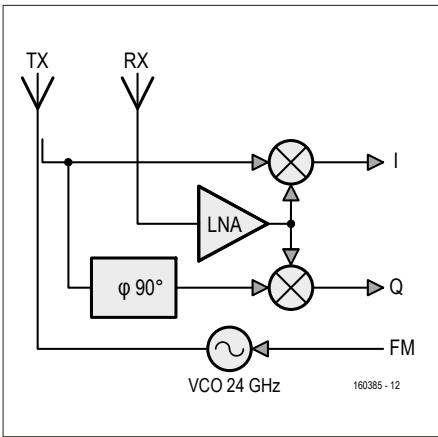

Figure 1. All this circuitry is housed inside the 25.4 × 25.4 × 6 mm (1" × 1" × 0.25") K-LC5 Doppler radar transceiver module.
The block diagram of the radar module I selected for my experiments is shown in **Figure 1**. The transmitted signal is generated by a voltage controlled oscillator (VCO) operating in the frequency range of 24.050 to 24.250 GHz. The tuning voltage input FM of the module can be used to modulate the VCO's frequency. In this application, however, a simple
Suppose that the transmitted (TX) signal frequency is 24.1 GHz and this signal inevitably also leaks to the receiver mixer for an LO signal (note the almost connected line in Figure 1). Imagine that the signal reflected by some object — our target — received by the receive antenna and fed to the mixer's RF port (RX), is at 24.100001 GHz, i.e. 1 kHz up from the TX frequency. Because the mixer produces at its IF output the sum and difference frequencies of LO and RF, there will be a sinusoidal signal with a frequency of 1 kHz (the difference) together with a signal with a frequency of 48.200001 GHz (the sum). Of course, there will also be some interference, noise and other harmonic components, but they are either suppressed or otherwise not significant. If we plug the value of 1 kHz into the equation presented above, together with $f_0 = 24.1$ GHz and $c = 3 \times 10^8$ m/s we find an object speed of 6.2 m/s or 22.4 km/h.
Note that if the RX signal was 1 kHz under LO, then there would be the same 1 kHz IF output signal. The frequencies 24.100001 GHz and 24.099999 GHz are so-called image frequencies because they produce the same signal at the IF output. The radar module depicted in **Figure 1** has two mixers with two outputs labelled 'I' and 'Q'. These are the so-called in-phase ('I') and quadrature ('Q') signal components. The 'I' and 'Q' signal paths are identical except for a 90° phase shifter in the 'Q' branch. From the phase relationship between 'I' and 'Q' it is possible to determine whether RX was above or below LO.